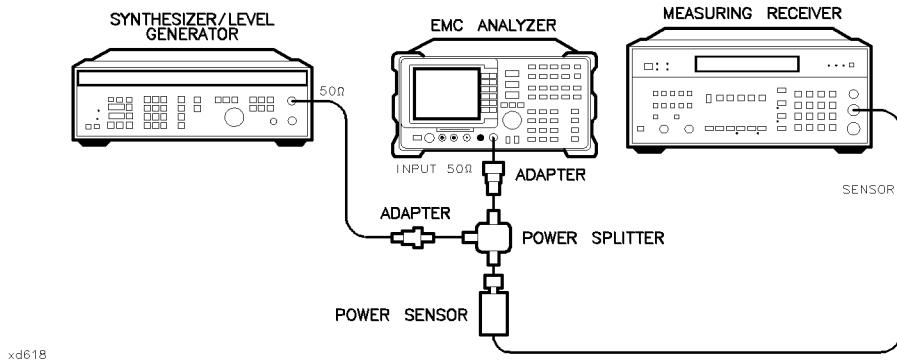

Figure 2-26. Frequency Response Test Setup, <50 MHz, HP 8593EM
49. Connect the equipment as shown if Figure 2-26, with the power sensor connected to power splitter.